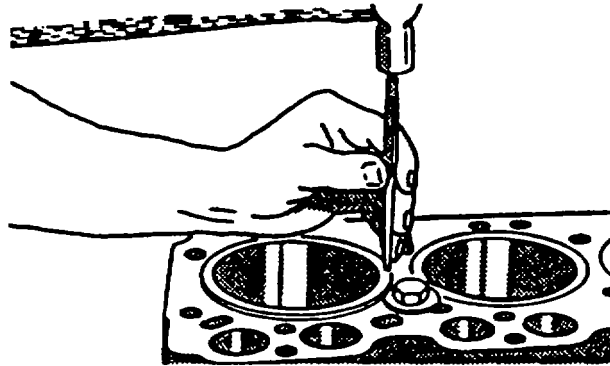
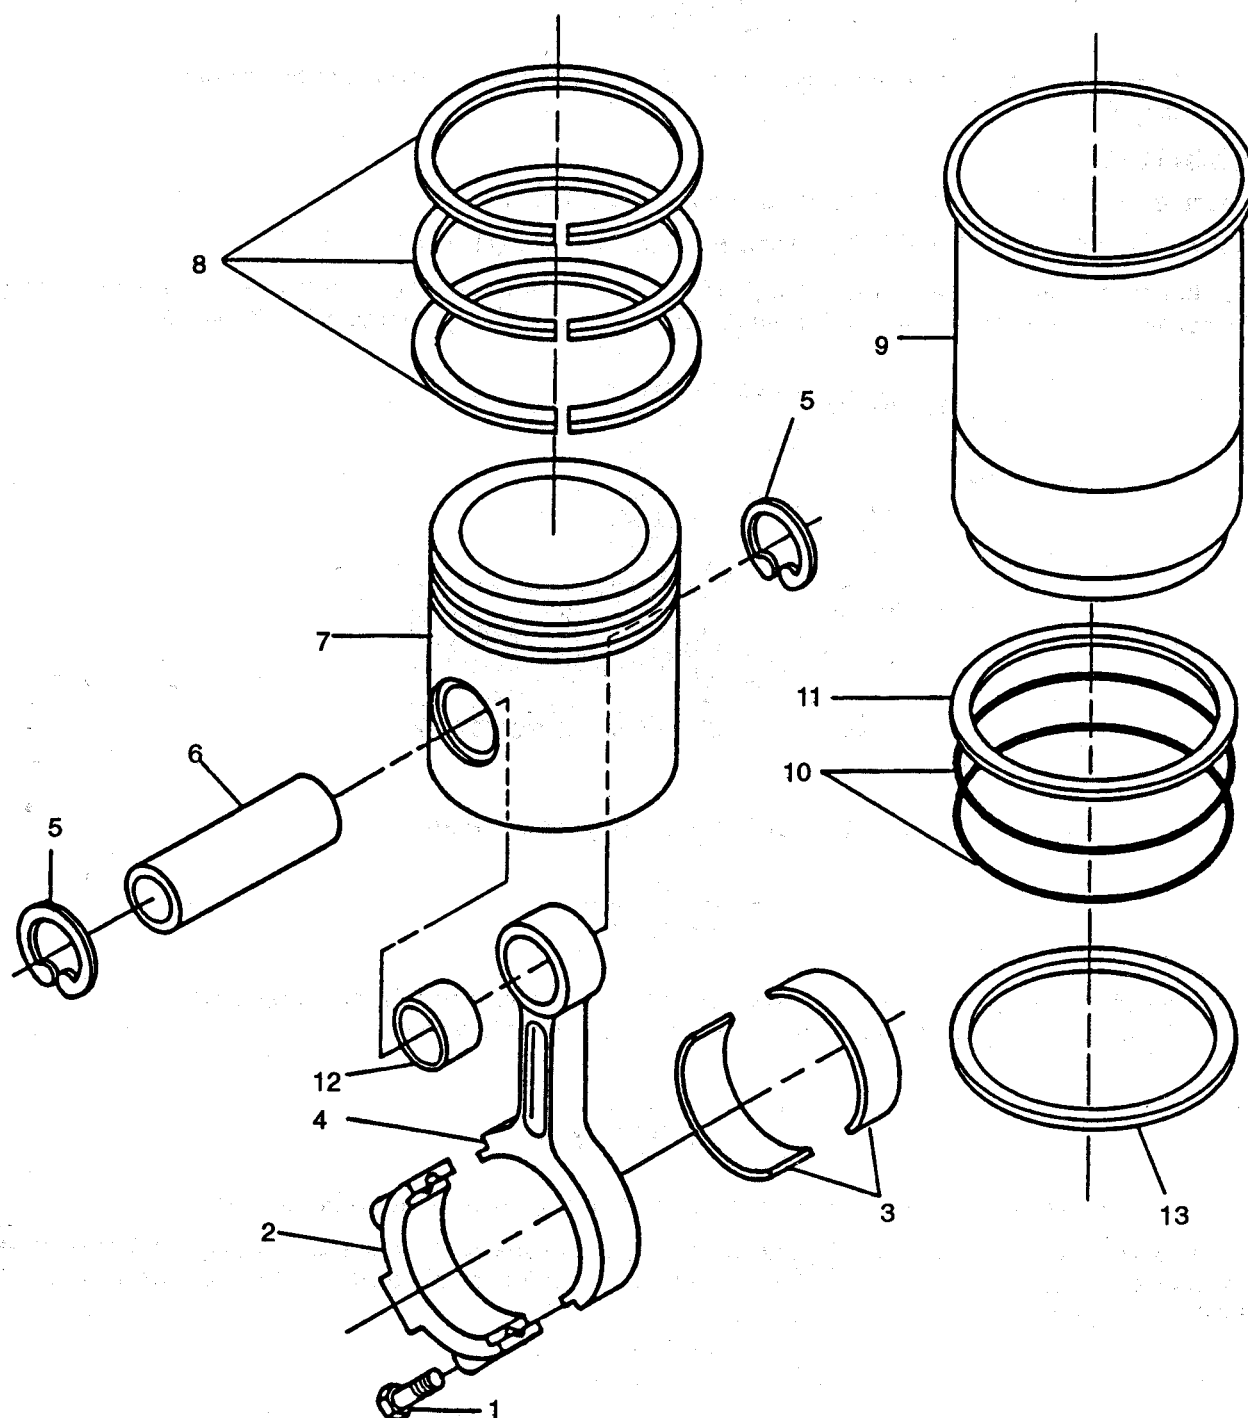
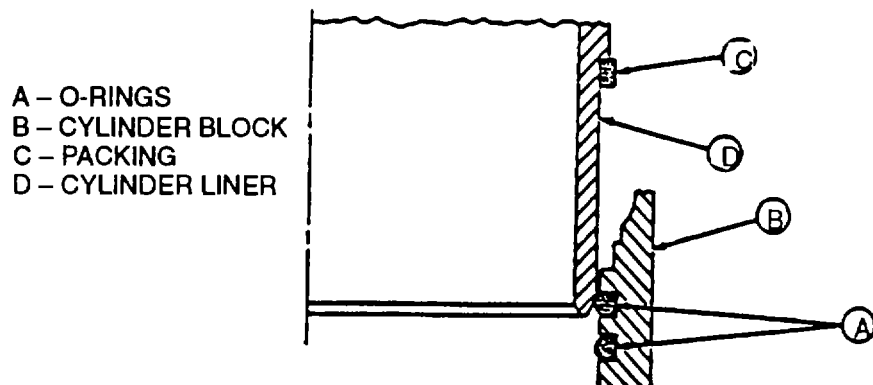
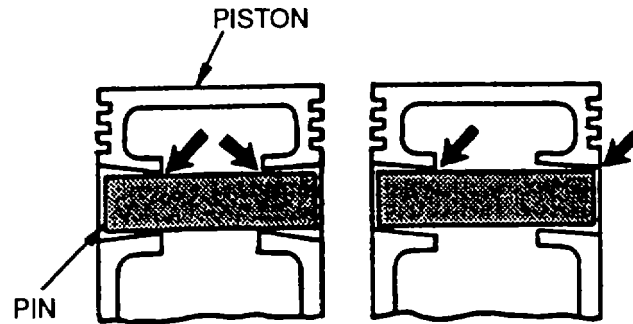

FIGURE 3-142. Marking Cylinder Liners
FIGURE 3-143. Pistons, Connecting Rods, and Cylinder Liners
FIGURE 3-145. Cylinder Liner O-Rings and Packing
FIGURE 3-149. Checking Piston Pin Clearance
Keep bearing inserts (3, FIGURE 3-143) with their respective rods (4) and caps (2). Mark rods (4), pistons (7), and caps (2) to ensure correct assembly in same location.
- l. Remove bolt (1) securing bearing cap (2) to connecting rod (4); remove cap (2) and bearing inserts (3).
- c. Number cylinder liners (9, FIGURE 3-143) and pistons (7). Stamp front of liner to assure correct assembly. Do not stamp liner flange; stamp on fire dam only (raised part of liner), refer to FIGURE 3-142.
Each cylinder liner (9, FIGURE 3-143) must be reinstalled in cylinder bore from which it was removed. Always keep matched pistons and liners together.
- e. Remove cylinder liner O-rings (10, FIGURE 3-143) from grooves in engine block. Also remove packing (11) from cylinder liner (9), refer to FIGURE 3-145. Discard O-rings and packing.
- a. Remove piston rings (8, FIGURE 3-143) from piston (9) using piston ring expander. Discard piston rings.
- b. Remove two retaining rings (5) and remove piston pin (6). Discard retaining rings.
- c. Separate piston (7) and rod (4). Keep these parts in place with their respective cylinder liner (9).
- p. Install pin (6, FIGURE 3-143) through piston.
- (1) Pin should pass through piston using only light thumb pressure.
- (2) Check taper in piston pin bore by inserting pin from both sides, refer to FIGURE 3-149. If pin enters freely, but binds in center, bore could be tapered. If bore is not tapered, insert pin to check for bore alignment. Pin should not click or need to be forced into bore on opposite side.